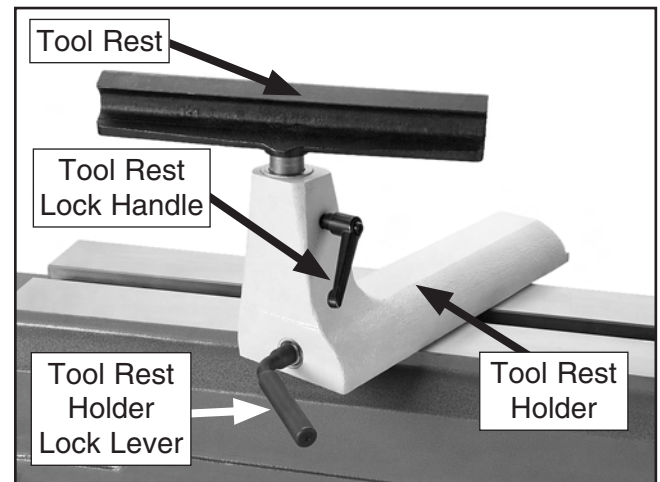

Figure 13. Tool rest controls.
1. Loosen the tool rest holder lock lever and move the tool rest assembly to the desired position on the lathe bed (**Figure 13**).
Note: The hex nut underneath the tool rest holder (**Figure 13**) may require occasional tightening to restore proper clamping pressure and lever position. When adjusted properly, the lever should be at the horizontal position when the tailstock is fully clamped to the bed.